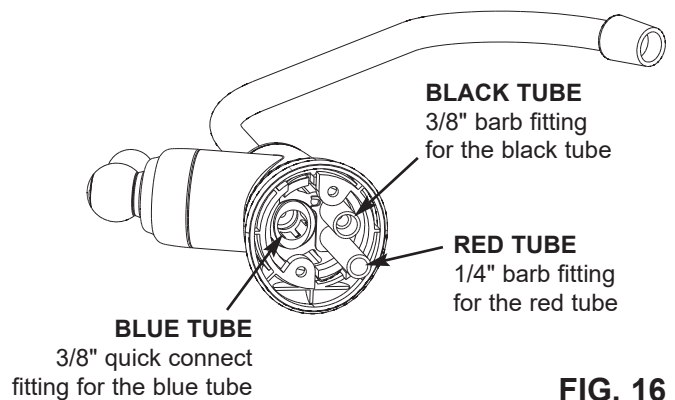

FIG. 16
4. Feed a length of 3/8" blue tubing up through the hole and insert end into the push-in fitting on the bottom of the faucet. See Figure 16. Push tubing through the collet and all the way into the fitting. Full engagement is 3/4" length of tube into the fitting. Pull on the tube to be sure it's held firmly in the fitting. The other end of this tubing will be connected to the RO system, as shown on page 18.
5. Feed a length of 1/4" red tubing up through the hole and connect to the 1/4" barb on the bottom of the faucet. See Figure 16. The other end of this tubing will be connected to the RO system, as shown on page 18.
6. Feed a length of 3/8" black tubing up through the hole and connect to the 3/8" barb on the bottom of the faucet. See Figure 16. The other end of this tubing will be connected to the drain, as shown on page 18.